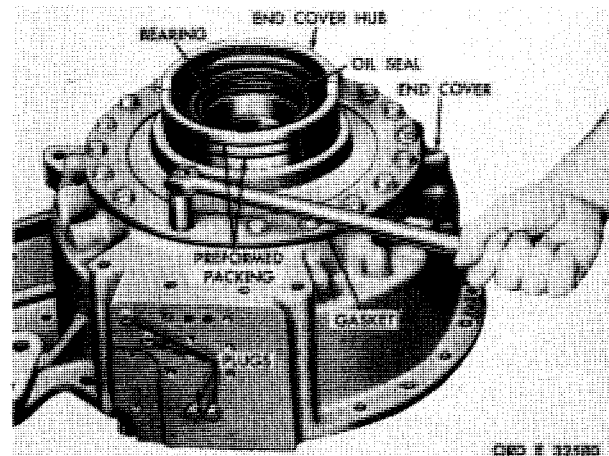

Figure 161. Removing end cover hub
m. Using 5/8-inch wrench, remove 19 bolts and lock washers that retain the end cover hub (fig. 161).
n. Remove the hub and gasket from the end cover (fig. 161).
o. Remove two preformed packings from the hub (fig. 161).
r. Do not remove the oil seal from the hub, unless replacement is necessary (fig. 161). If necessary, drive the oil seal out toward the outside of the hub.
yes u. The various plugs may be removed from the end cover to aid in cleaning and inspection of oil passages (fig. 161).
***C2** a. Install any plugs that were removed from the end cover (fig. 161). Install preformed packing 59 (fig. 381, fold-out 10) into end cover 48.